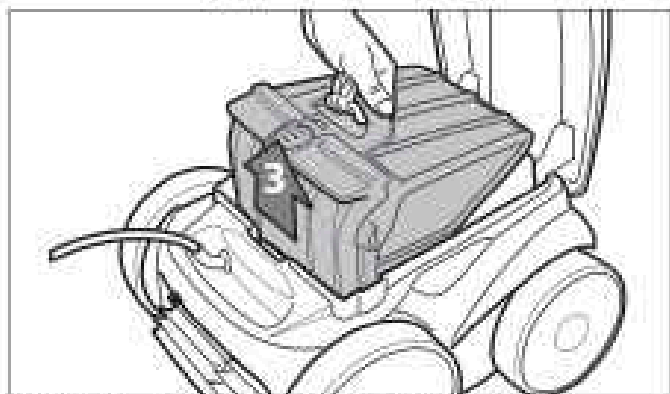

Figure 20. Remove Filter Canister Assembly
4. Remove the filter canister assembly from the body (3), as shown in Figure 20.